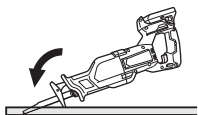

Fig. 23
- (2) Raise the handle slowly and cut in with the saw blade little by little. (Fig. 23)